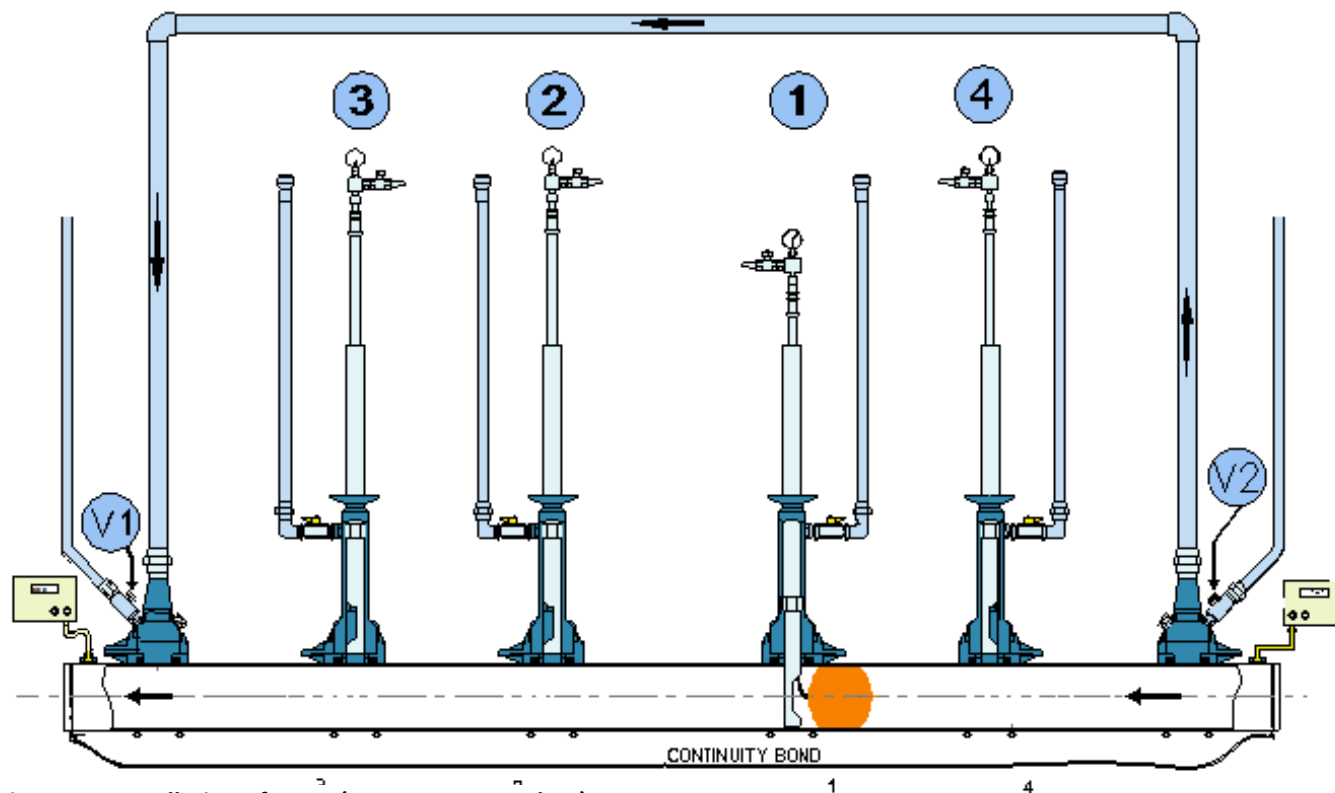

Figure 63- Installation of Bag 1 (Upstream Secondary)
6. As shown in Figure 63 open the gate on bag 1.